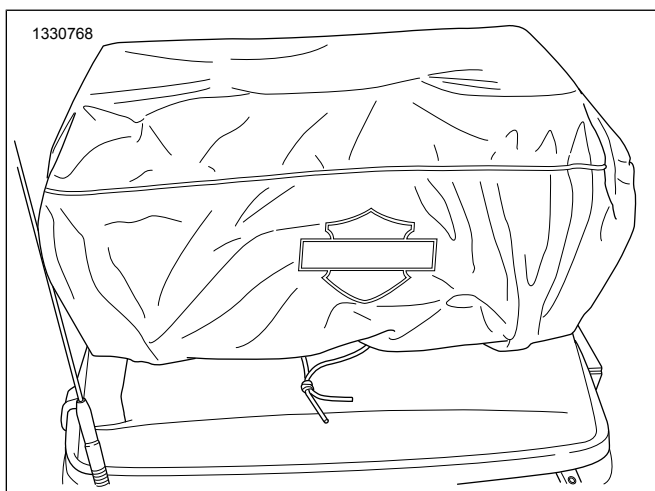

Figure 8. Rain Cover
1. See Figure 8. Pull rain cover over entire bag with Bar and Shield facing rear of bag.